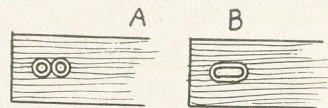

Fig. 3—Making the screw slots
Bore the holes for the screws large enough to allow them to be pushed through with the fingers, and well countersink them. For the slots, bore and countersink a pair of holes  $\frac{1}{8}$  in. apart, as at (A) Fig. 3, and cut the holes to form the slot, as at (B).